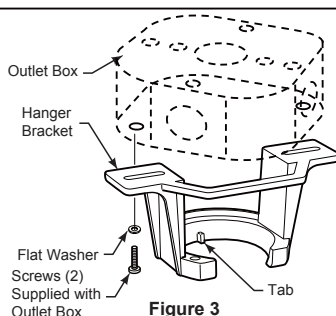

Figure 3
- ☐ 3. Route the black, white and blue wires through the downrod. (Figure 3)
1. Securely attach the hanger bracket to the outlet box (not included) using the outlet box screws and washers supplied with the outlet box. (Figure 3)